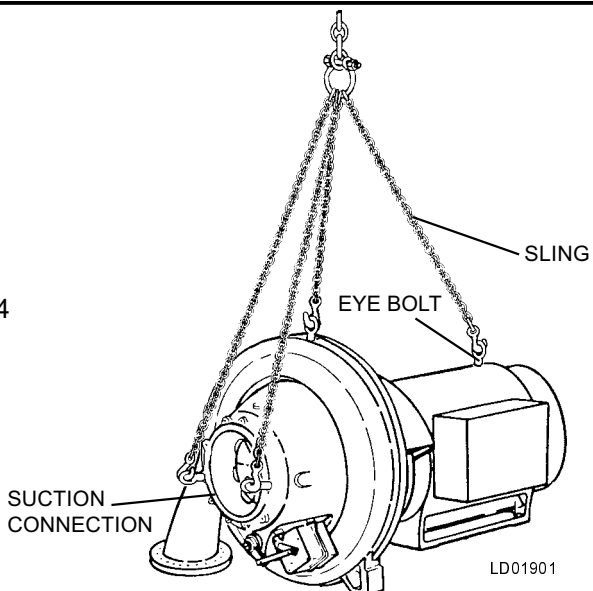

FIG. 5 – RIGGING COMPRESSOR ASSEMBLY
4. Lift compressor-motor assembly and remove packing materials and shipping skids. Keep the compressor unit supported by the hoist until all connections are finally made to the shell assembly. (Refer to Fig. 5 for rigging method.)